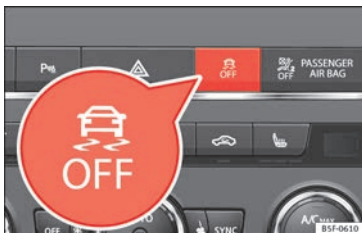

Fig. 190 Centre console: Button for switching on/off the ESC and ASR
- Press the button   **Fig. 190** for approximately 1 second to switch off the ASR function.
- Press the button   **Fig. 190** for approximately 3 seconds to switch off the Electronic Stability programme (ESC), including the ASR function.
- The ASR and ESC function are reconnected by pressing the button   **Fig. 190.**